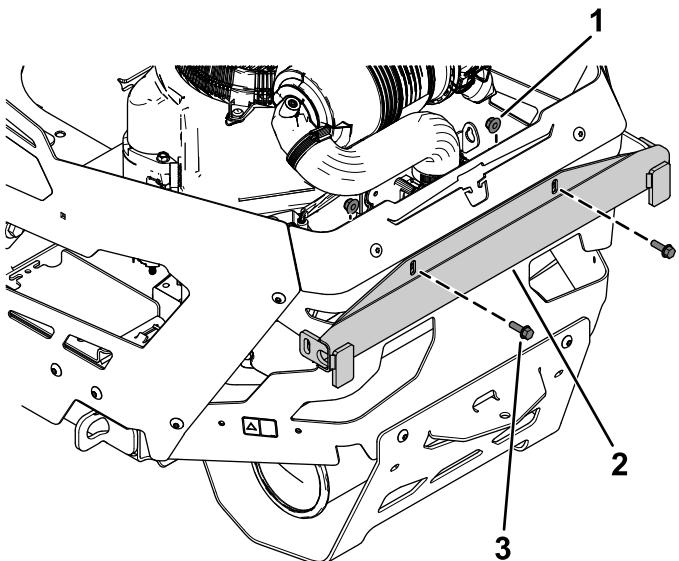

Figure 11
1. Loosely secure the upper support to the rear engine guard using 2 flange-head bolts (5/16 x 1 inch) and 2 flange nuts (5/16 inch) as shown in Figure 11.